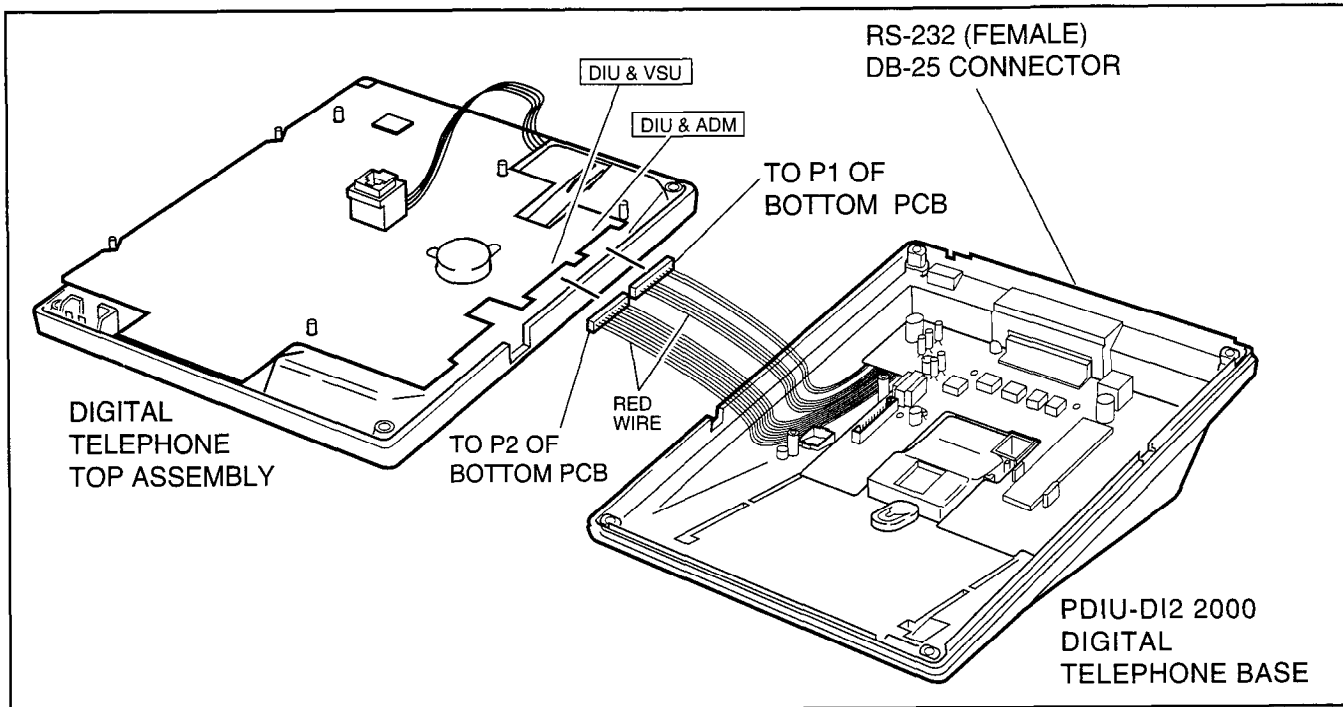
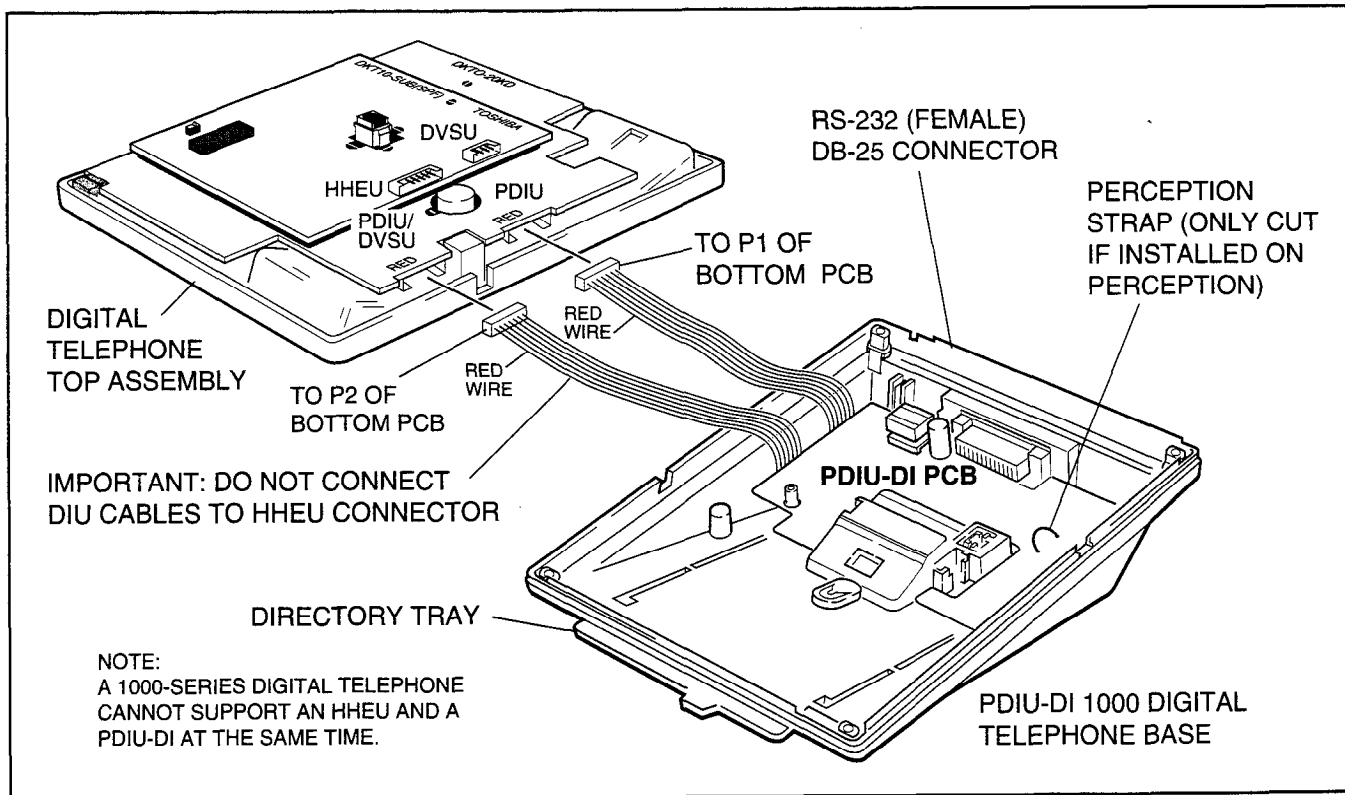

FIGURE 6-4
FIGURE 6-5
- 2) Refer to Figure 6-4 for 2000-series telephones or Figure 6-5 for 1000-series telephones, and insert the two integrated unit wire plugs into the connectors on the printed circuit board (PCB) in the telephone (observing the red wire for correct positioning).
- 4) Remove the telephone number directory tray from the original telephone base and install it on the integrated unit telephone base. Bend the tray by squeezing its sides so it bows slightly to remove and re-install (Figure 6-4 or 6-5).